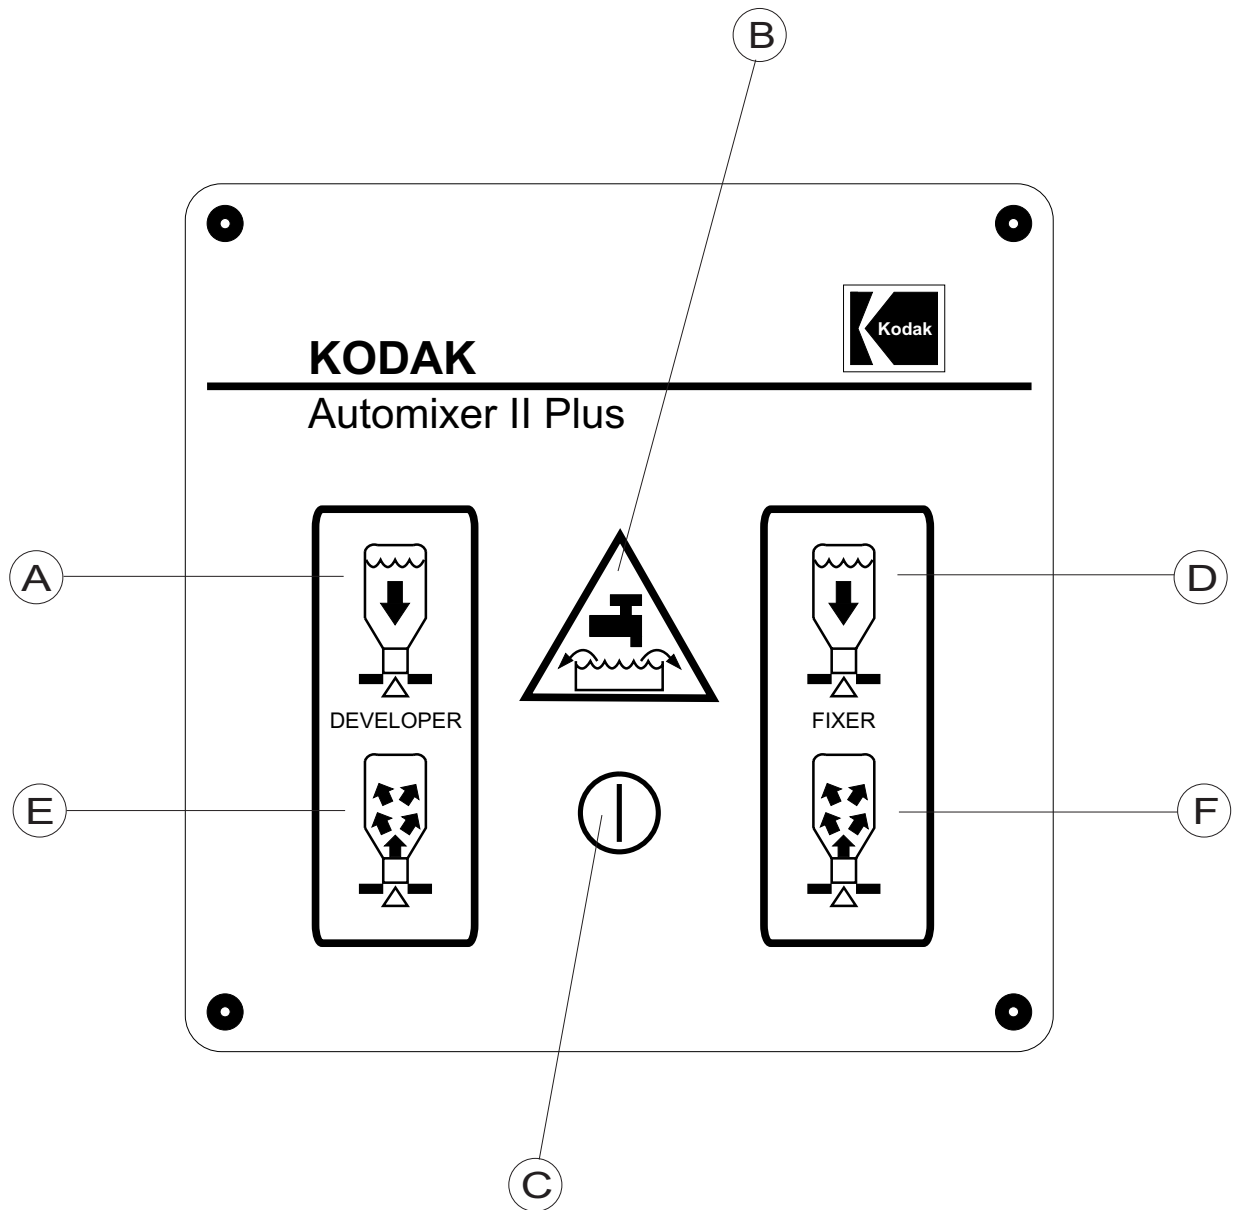

figure 4: Control Panel
- **Power-on indicator** (see item C of figure 4 on page 6)
- **Developer low level warning light** (see item A of figure 4 on page 6),
fixer low level warning light (see item D of figure 4 on page 6)
- **Overflow warning light** (see item B of figure 4 on page 6)
- **Bottle rinse indicator - Developer** (see item E of figure 4 on page 6),
Bottle rinse indicator - Fixer (see item F of figure 4 on page 6)
The power-on indicator (see figure 4 on page 6) shows that the power is on and the unit ready for use.